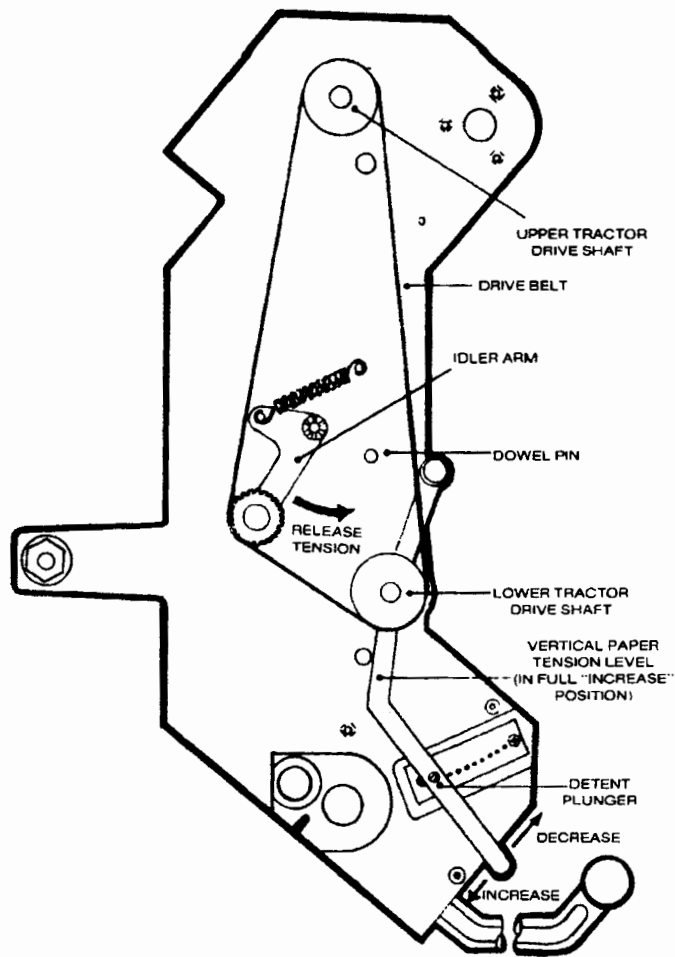

Figure 5-6. Tractor Drive Belt "Phasing"
2. Place the vertical paper tension lever all the way down in the fully increased position (see Figure 5-6). If the lever will not stay in place, the detent plunger may need to be tightened.
- e. Relieve the tractor drive belt tension by pulling the idler arm upwards and against the dowel pin, which will hold it in place (see Figure 5-6).